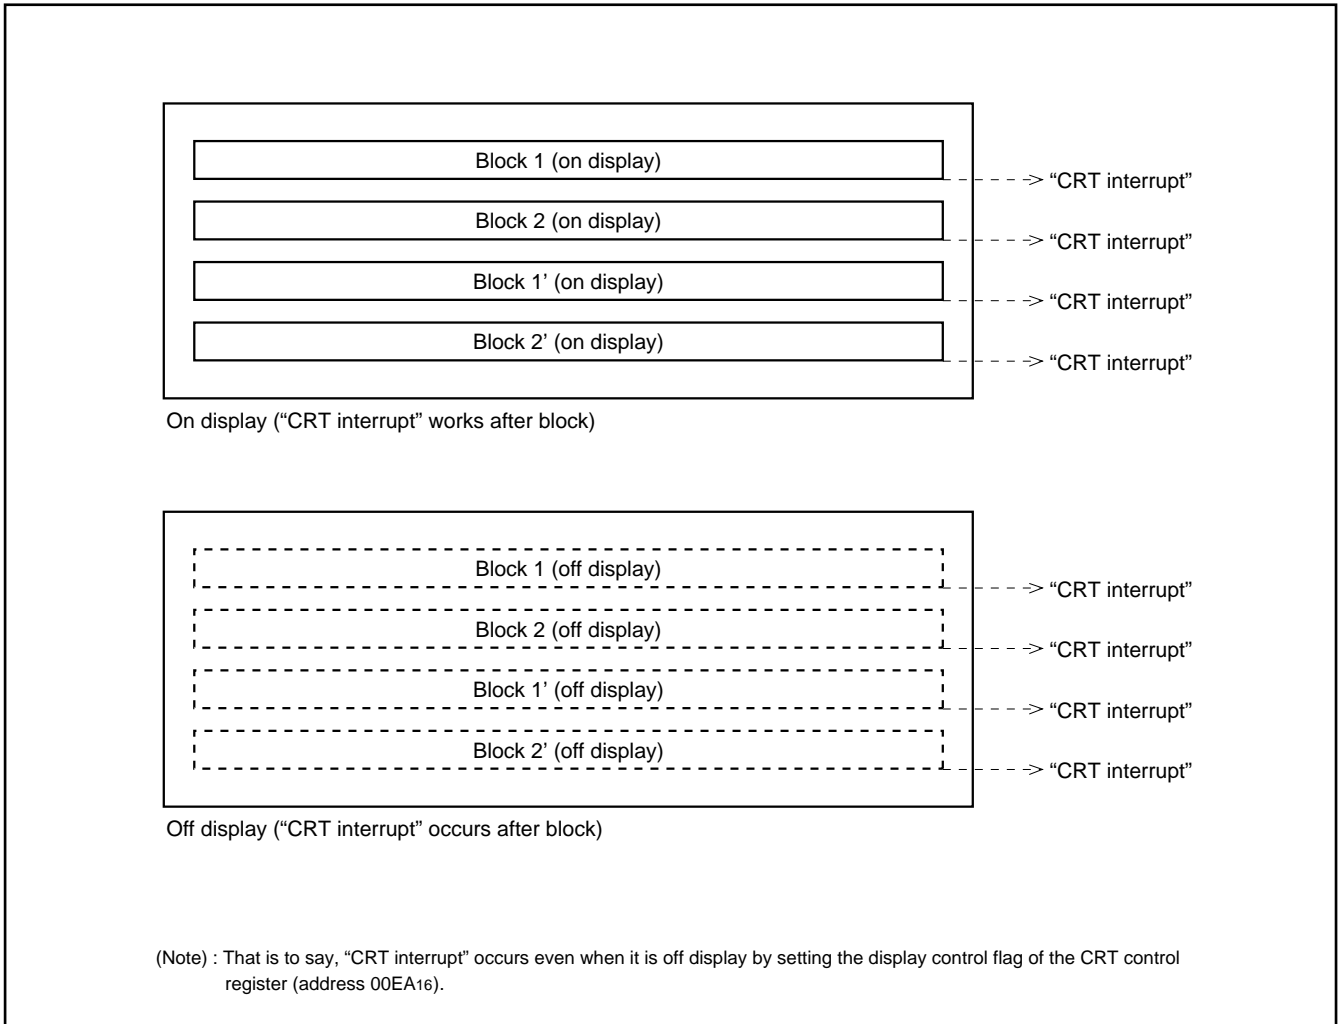

Fig. 30 Timing of CRT interrupt
**Note :** A CRT interrupt does occurs at the end of display regardless of display on or off. In other words, even if a block is set to off display with the display control bit of the CRT control register (address 00EA16), a CRT interrupt request occurs (refer to Figure 30).